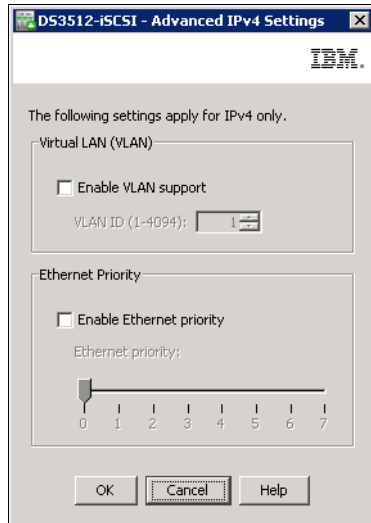

Figure 13-10 Advanced IPv4 Settings
5. In **Advanced IPv4 Settings** window (Figure 13-10 on page 320), you can enable native VLAN support and specify a VLAN ID that will be used by the selected port. In addition, Ethernet priority can be set here.